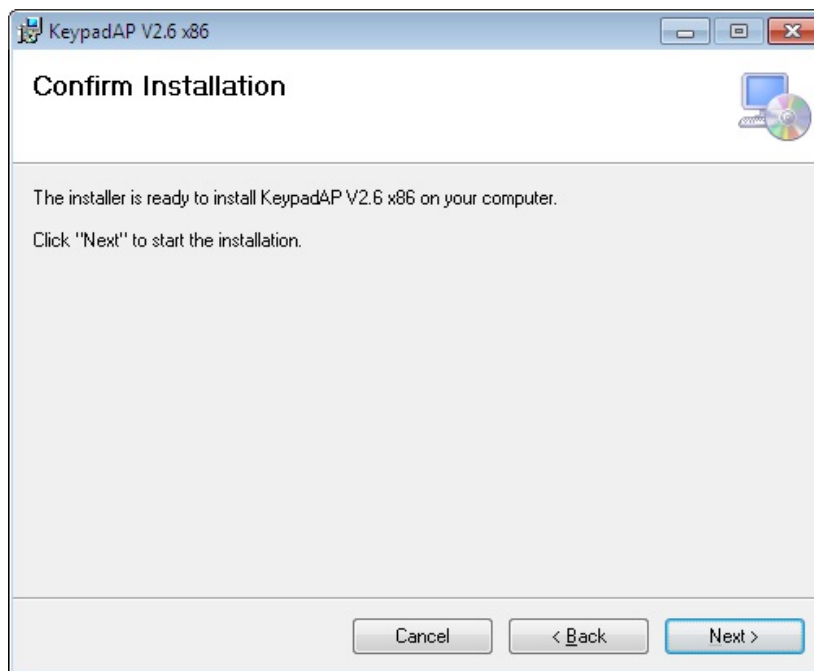

Figure 6-39: Confirm Installation
Step 8: The **Confirm Installation** screen in **Figure 6-39** appears. Click **Next** to proceed with the installation.